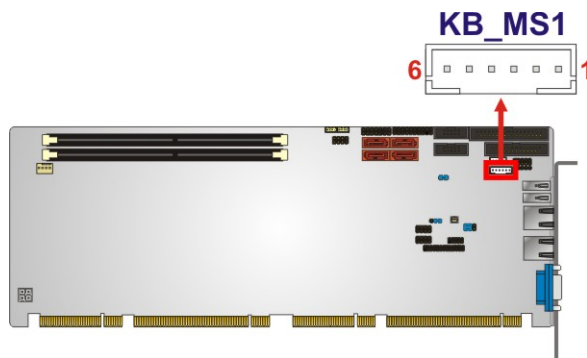

Figure 3-13: Keyboard/Mouse Connector Location
**CN Location:** See Figure 3-13